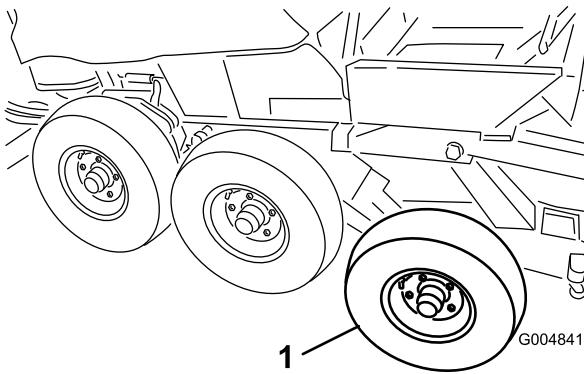

Figure 123
37. Remove the front and center tires from the winter assembly (Figure 123).